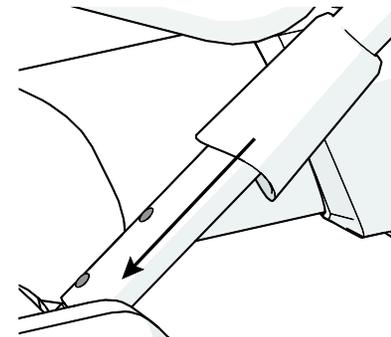

Figure 20
6. Rotate one of the plastic boots so that it aligns with the surface below it, then press the boot downward to secure it in place (see Figure 20). Repeat this step to position the other plastic boot.